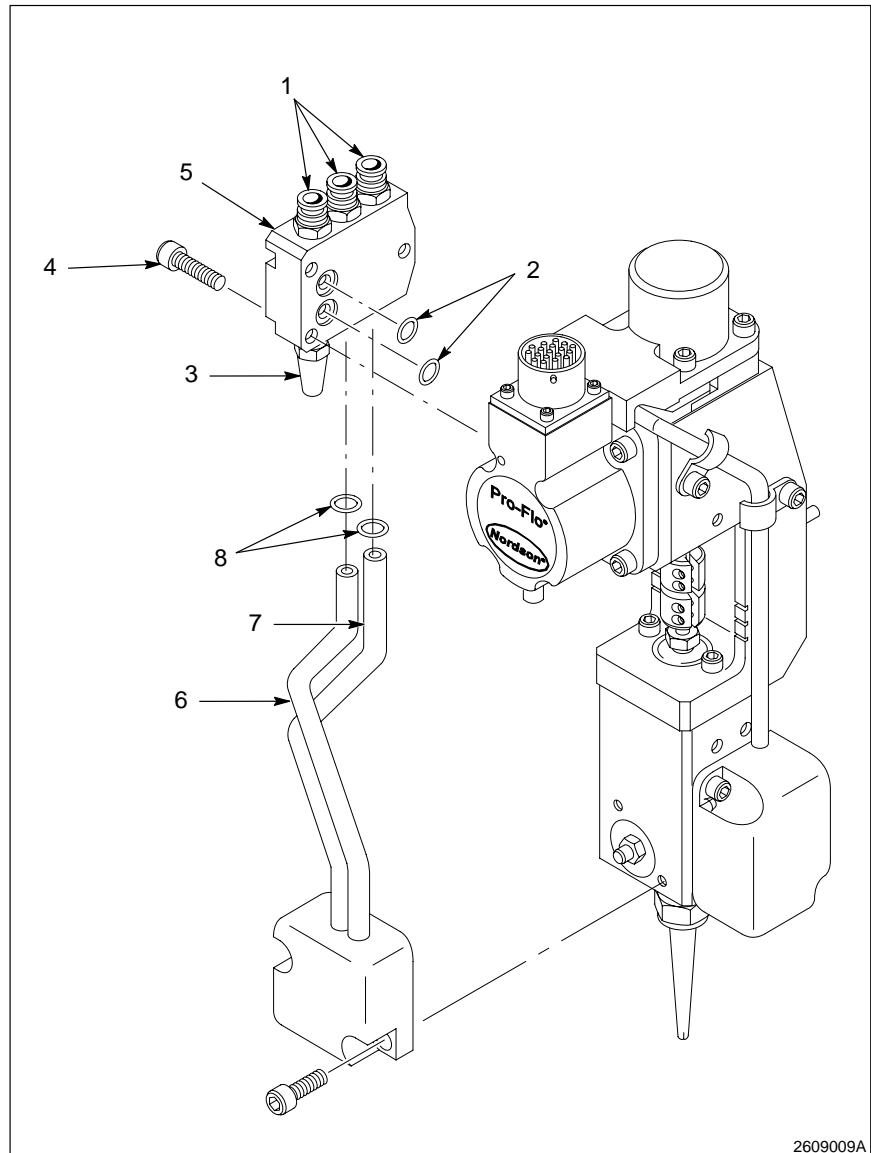

Fig. 6-5 Air Manifold
2. See Figure 6-5. Loosen the screws (4) securing the air manifold (5) to the actuator body and remove the air manifold.
- a. Mark and remove the material cutoff (MCO) or special nozzle extend air lines (6).
- b. Mark and remove the retract air lines (7). Keep the air lines with the MCO housing or the nozzle.
- c. Remove the air line O-rings (8).
1. See Figure 6-5. Install the muffler (3) and air tube connectors (1) on the air manifold (5).
2. Install new O-rings (2) and align the air manifold (5) on the actuator body.
- a. Install new O-rings (8).
- b. Insert the extend (6) and retract (7) air lines in the air manifold (5).
4. Insert the screws (4) in the air manifold (5) and tighten to the actuator.